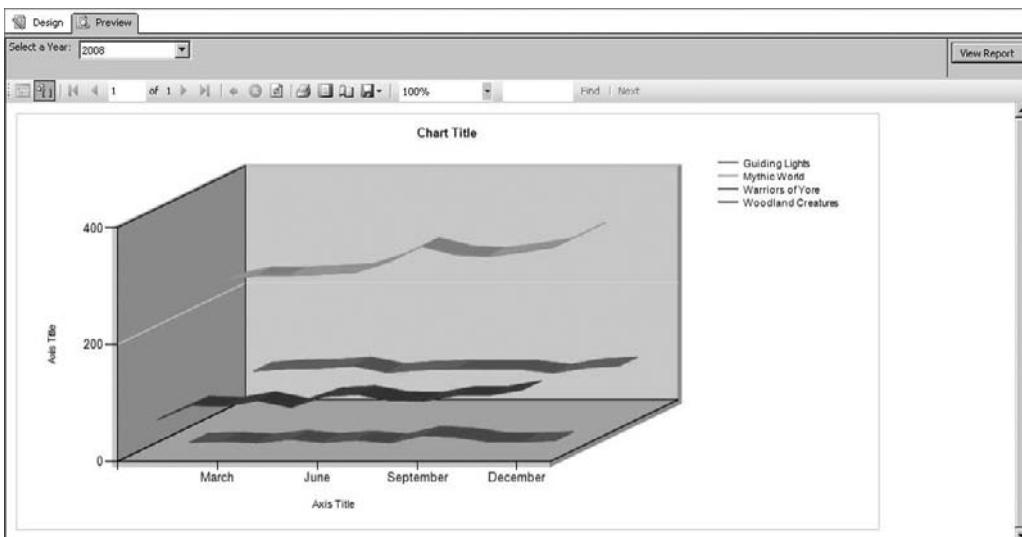

Figure 16-50 The first version of the *Inventory Levels By Month* Report
44. Select the Preview tab. The report appears as shown in Figure 16-50. The report did not wait for a parameter value to be selected. Instead, it rendered the report using the default value of 2008. Select 2007 from the Select a Year drop-down list and click View Report. The chart for the year 2007 is displayed.